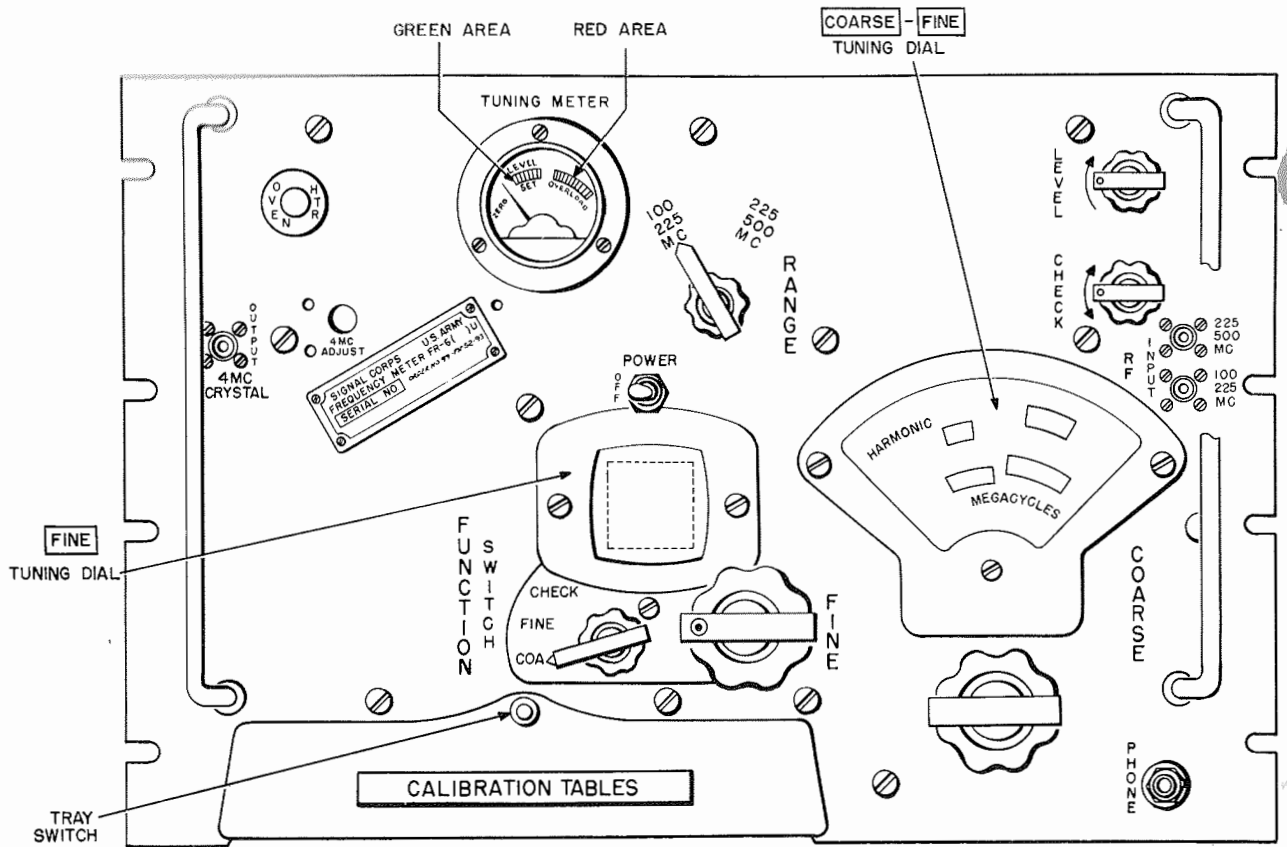
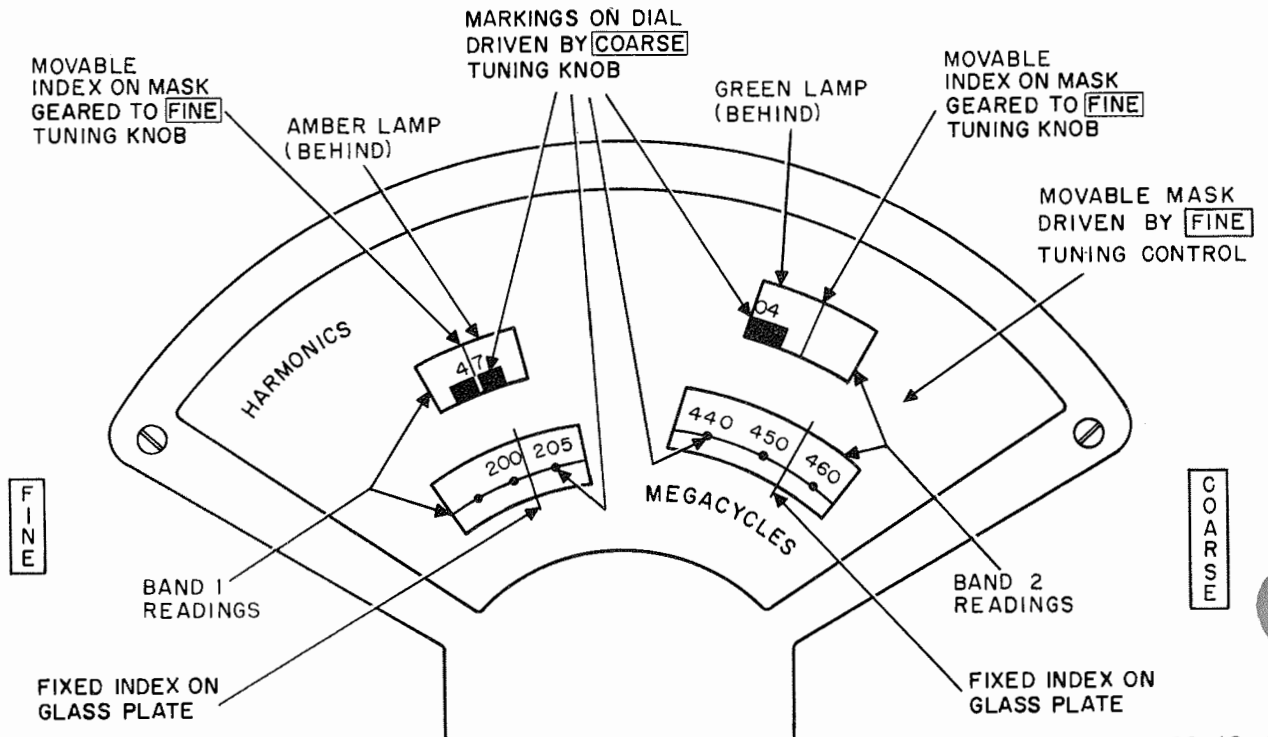

Figure 5. Frequency Meter FR-6/U, front panel.
Figure 6. COARSE-FINE tuning dial.
- (1) F701 and F702, 1.5 amperes.
- (2) F703 and F704 (spares), 1.5 amperes.
- c.* Set the POWER switch to OFF (fig. 5).
- e.* Plug the headset in the PHONE jack (fig. 5).
16. Functions of Controls and Instruments (figs. 5 and 6)
COARSE-FINE tuning dial.....	The tuning dial functions as follows (fig. 6): Indicates frequencies in band 1 when the RANGE switch is in the 100-225 MC position. Indicates frequencies in band 2 when the RANGE switch is in the 225-500 MC position. Indicates the HARMONICS of the frequency meter by the appearance of a black rectangle and a harmonic number in the HARMONICS window as selected by the COARSE tuning control. Indicates the approximate frequency in MEGACYCLES of the unknown signal as selected by the COARSE tuning control. Indicates the exact frequency being measured when the movable index driven by the FINE tuning control coincides with the correct HARMONICS number (also zero beat heard in headset).
a. *Preliminary.* Set the power switch to OFF; then plug in the power cord and set the front panel controls (fig. 5) as follows:
a. *COARSE Tuning* (fig. 5).
- (1) Turn the FUNCTION SWITCH to COARSE.
- (2) Set the RANGE switch to the desired band.
- (3) If the band is unknown, start with the RANGE switch set at band 1.
- (4) The COARSE-FINE tuning dial lights as follows: amber for band 1, and green for band 2.
- (5) Turn the COARSE tuning control until an audio tone is heard in the headset. If a tone is not heard, turn the LEVEL gain control fully clockwise.
(6) If tone still is not heard, proceed as follows:
- (c) Follow the procedure outlined in (5) above; then perform the procedure outlined in (7) below.
(7) Observe the TUNING METER; if the needle is pointing in the OVERLOAD area, adjust the frequency meter as follows:
- (8) Read the approximate frequency as seen through the MEGACYCLES window of the COARSE-FINE tuning dial. See figure 6 for a sample reading of approximately 203 mc on band 1.
b. *FINE Tuning* (fig. 5).
- (1) Turn the FUNCTION SWITCH to FINE. The tone no longer will be heard.
- (2) Turn the FINE tuning control and listen for a tone in the headset.
- (3) Turn the FUNCTION SWITCH to CHECK.
- (1) Set the RANGE switch (fig. 5) to the desired band.